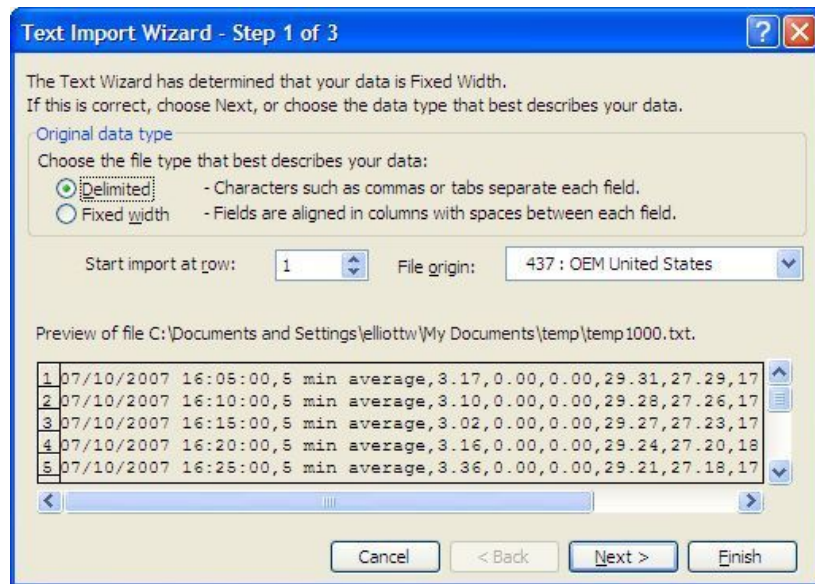

Figure 33 Step 1.
- Your data should be imported into Excel, as shown below in Figure 33.